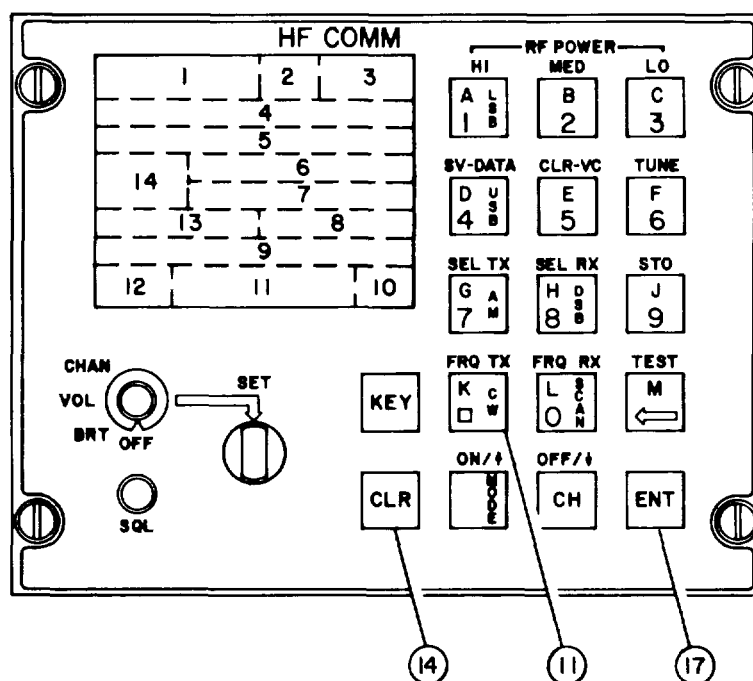

Figure 2-19. C-11245/U Control-Display Panel Identification Fields
Apply vehicle power to the radio set. To turn on the radio set, set POWER ON/OFF (22, fig 2-1) to ON and turn the function select knob (18, fig 2-1) clockwise from the OFF position. When the radio set is initially powered up, channel 0 information will be displayed. Channel 0 may be programmed and operated in the same manner as channels 1 thru 20. Set CRT brightness and audio volume to desired levels using the FUNCTION SELECT and SET controls as instructed in table 2-1. To program a channel, set squelch, select channel, set operating limits, store channel information, tune, and test according to procedures given in this paragraph. Field numbers in figure 2-19 correspond to those identified in figure 2-2. To hear audio at the speaker, set SPEAKER ON/OFF (21, fig. 2-1) to ON.
When using the control-display panel shown in figure 2-19, the mode of operation and other channel data may be changed as often as desired until the appropriate terminating pushbutton is pressed. Both the ENT pushbutton (17) and the decimal point pushbutton (11) are, defined as terminating pushbuttons. If the CLR pushbutton (14) is pressed before the terminating pushbutton, the changes entered will be cleared and the CRT display will return to the display present before changes were entered.
CRT display fields, indicated by the number of the field, are shown in figure 2-19. In the channel number (field 2), RX (field 4) and TX (field 5) frequency, and selective address fields, RX (field 6) and TX (field 7), the first character entered is displayed in the position furthest to the right in that field. Later entries shift the earlier entries to the left. After the entry field is full, further entries shift the characters to the left and out of the display field.